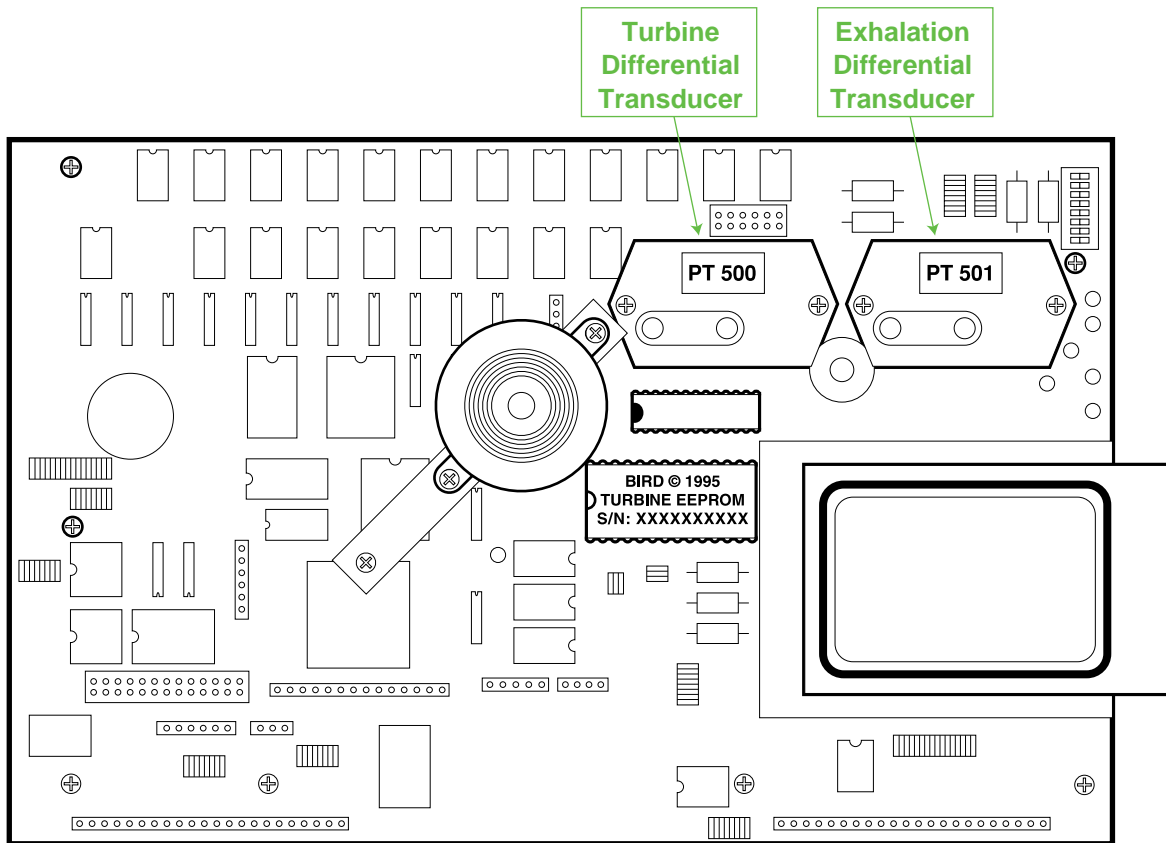

Figure 5-18. Turbine Differential Pressure Transducer and Exhalation Pressure Differential Transducer
2. Referring to Figure 5-18, label or note the position of the pneumatic connections to the pressure transducer and remove them.
3. Remove the two (2) screws retaining the pressure transducer to the Main PCBA.